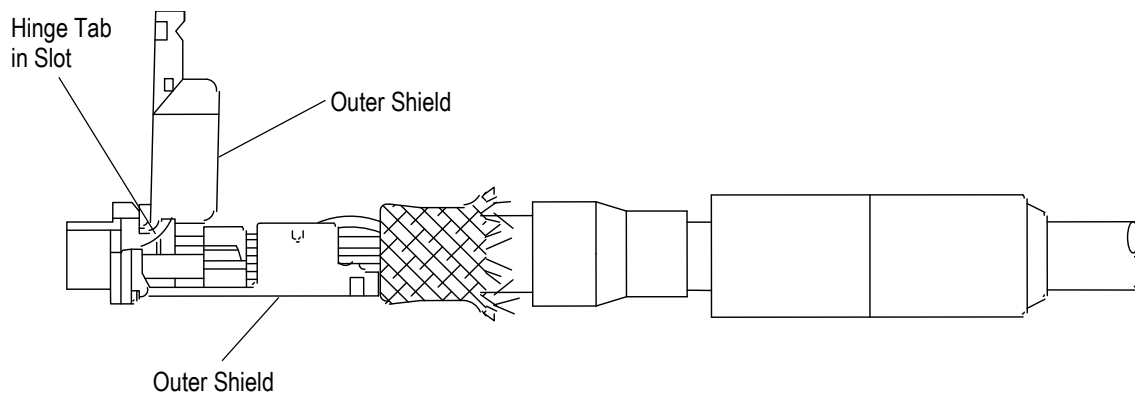

Figure 8
2. Position the hinge tabs of the outer shield into the corresponding slots of the connector shell as shown in Figure 8.